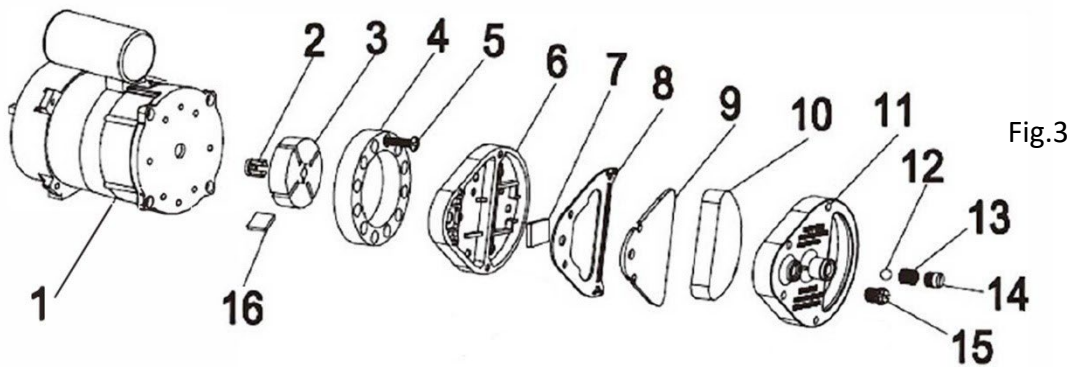

Fig.3
To clean the air filters, remove the filter cover (11), wash the air inlet filter (10) with a mild detergent, then dry it completely before reinstalling it. Replace the air outlet filter (9) once a year. The filters can be changed more frequently if necessary. (Fig 3).